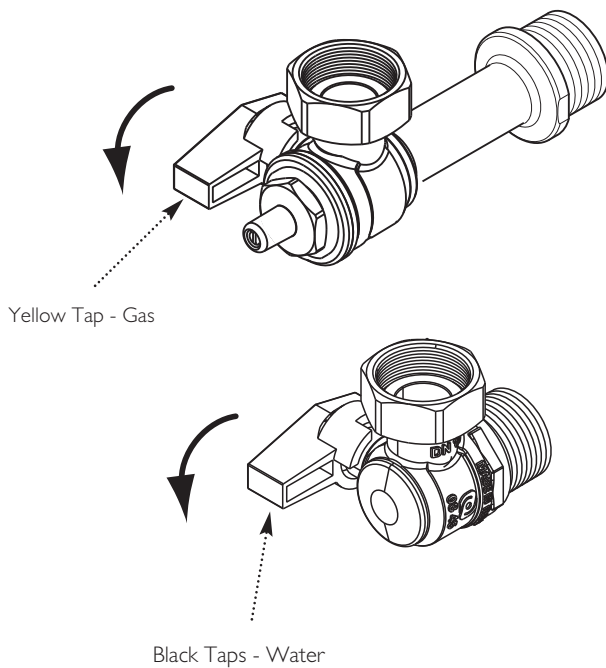

Fig. 7
1. If a water or gas leak occurs or is suspected, the boiler can be isolated at the inlet valves by turning their taps through 90° (1/4 turn) (Fig. 7).